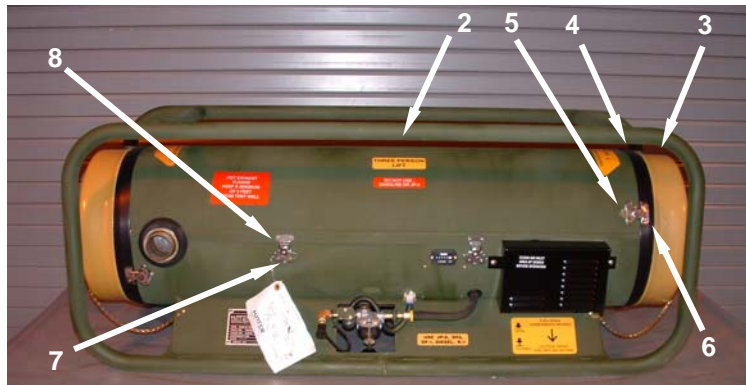

Figure 4. Clean the Burner Assembly.
1. Disconnect battery pack connector (**Figure 4, Item 1**) from lower housing assembly.
2. Remove the upper housing assembly (**Figure 4, Item 2**) by first removing the two dust covers (**Figure 4, Item 3**) at the inlet and outlet ends of the heater.
3. Remove the two duct adapters (**Figure 4, Item 4**) at the inlet and outlet end of the heater by releasing the two fastener housings (**Figure 4, Item 5**) from the fastener keepers (**Figure 4, Item 6**).
4. Remove the upper housing assembly (**Figure 4, Item 2**) by releasing the remaining fastener housings (**Figure 4, Item 7**) from their corresponding fastener keepers (**Figure 4, Item 8**). Lift and remove the upper housing assembly (**Figure 4, Item 1**). Set the upper housing assembly aside.